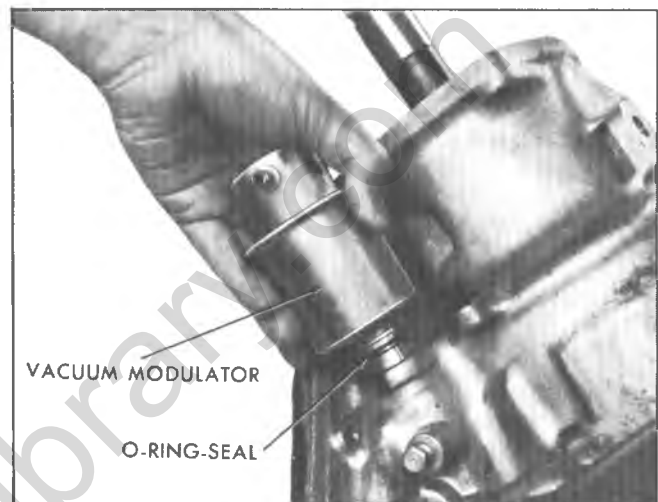

Fig. 3M--Removing Vacuum Modulator Assembly
4. Remove vacuum modulator assembly, "O" ring seal, and modulator valve from case (fig. 3M). Discard "O" ring.